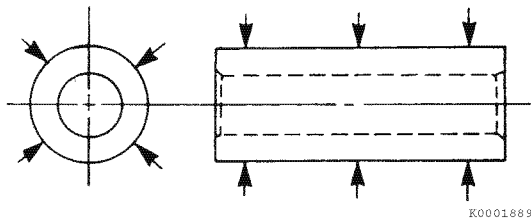

Figure 6-52
7. Measure the outside diameter of the wrist pin in three places and at 90° (**Figure 6-52**). See *Piston on page 6-9* for specifications. Record the measurements.